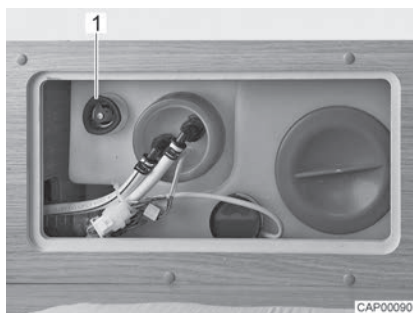

Fig. 74 Water tank with rotary handle
- Turn the rotary handle (Fig. 74,1) on the water tank in a clockwise direction as far as it will go.
- Turn the rotary handle (Fig. 74,1) on the water tank in an anticlockwise direction as far as it will go. Excess water will drain away leaving approx. 20 litres in the tank.